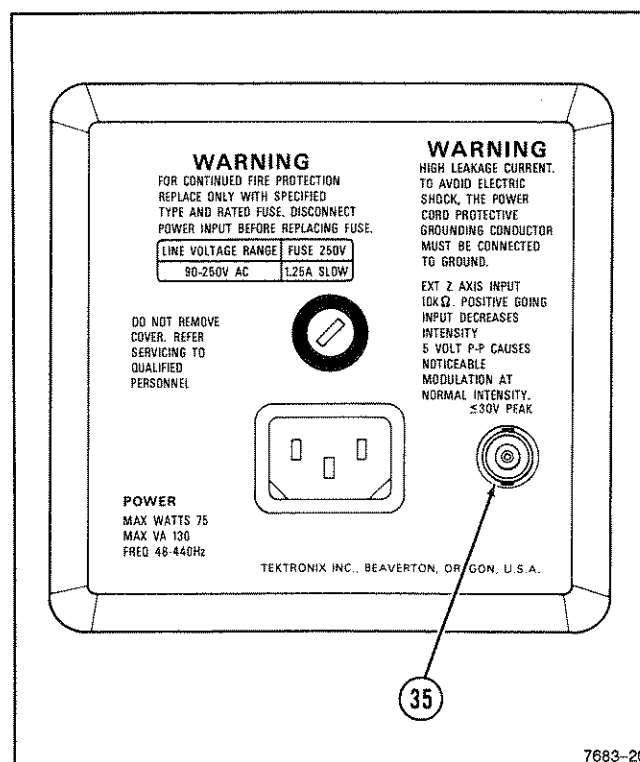

Figure 2-7. Rear-panel connector.
Refer to Figure 2-7 for location of item 35.
- ③⑤ **EXT Z-AXIS Connector**—Provides a means of connecting external signals to the Z-Axis amplifier to intensity modulate the crt. Applied signals do not affect display waveshape. Signals with fast rise times and fall times provide the best intensity change, and a 5 V p-p signal will produce noticeable modulation. The Z-axis signals must be time-related to the display to obtain a stable presentation on the crt.